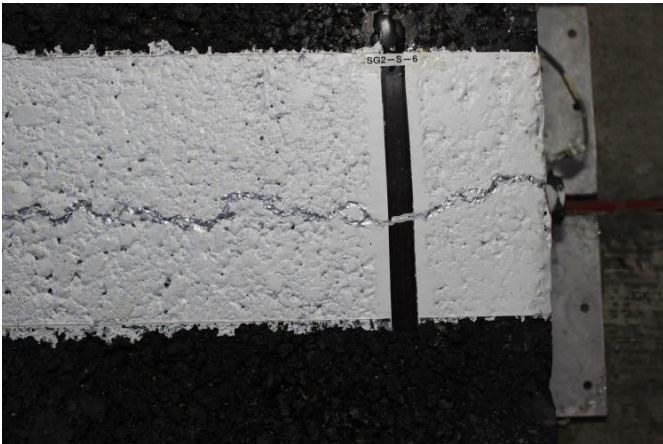

Figure 5. Fourth surface gauge SG2-S-6
- Fourth top surface gauge SG2-S-6, as shown in Figure 5.